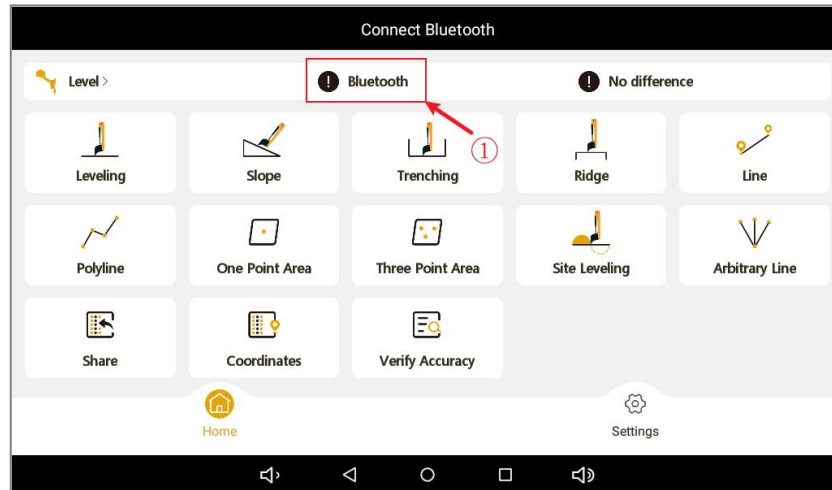
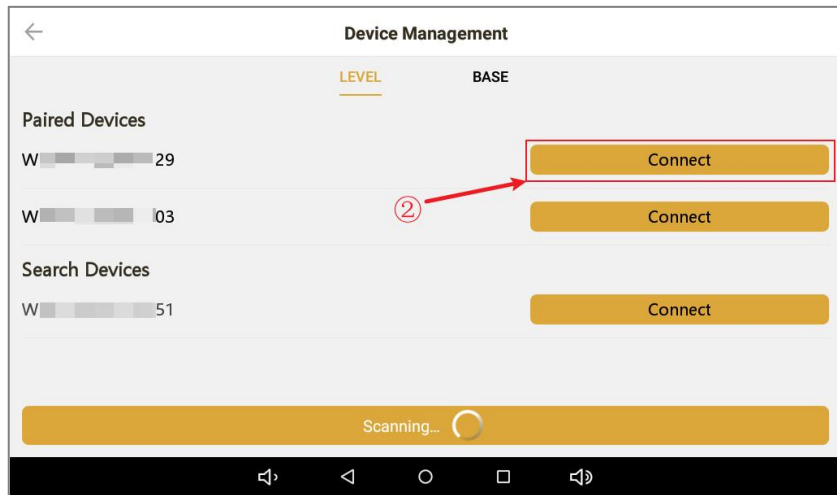

Figure 3-2
Figure 3-3
(1) Simultaneous configuration of base station and leveling instrument:
- ① Connect to the leveling instrument via Bluetooth: Press and hold the power button on the leveling instrument to power it on. Open the APP and tap Bluetooth, as shown in Figure 3-2. This enters the Device Management screen, as shown in Figure 3-3. Tap Connect next to the corresponding SN number. The leveling instrument SN is printed on the device label.
(2) Separate configuration of base station and leveling instrument:
- ① Configure the base station independently: Follow steps 2 through 4 in the simultaneous configuration section (1) of this subsection, with reference to Figure 3-3 through 3-12.